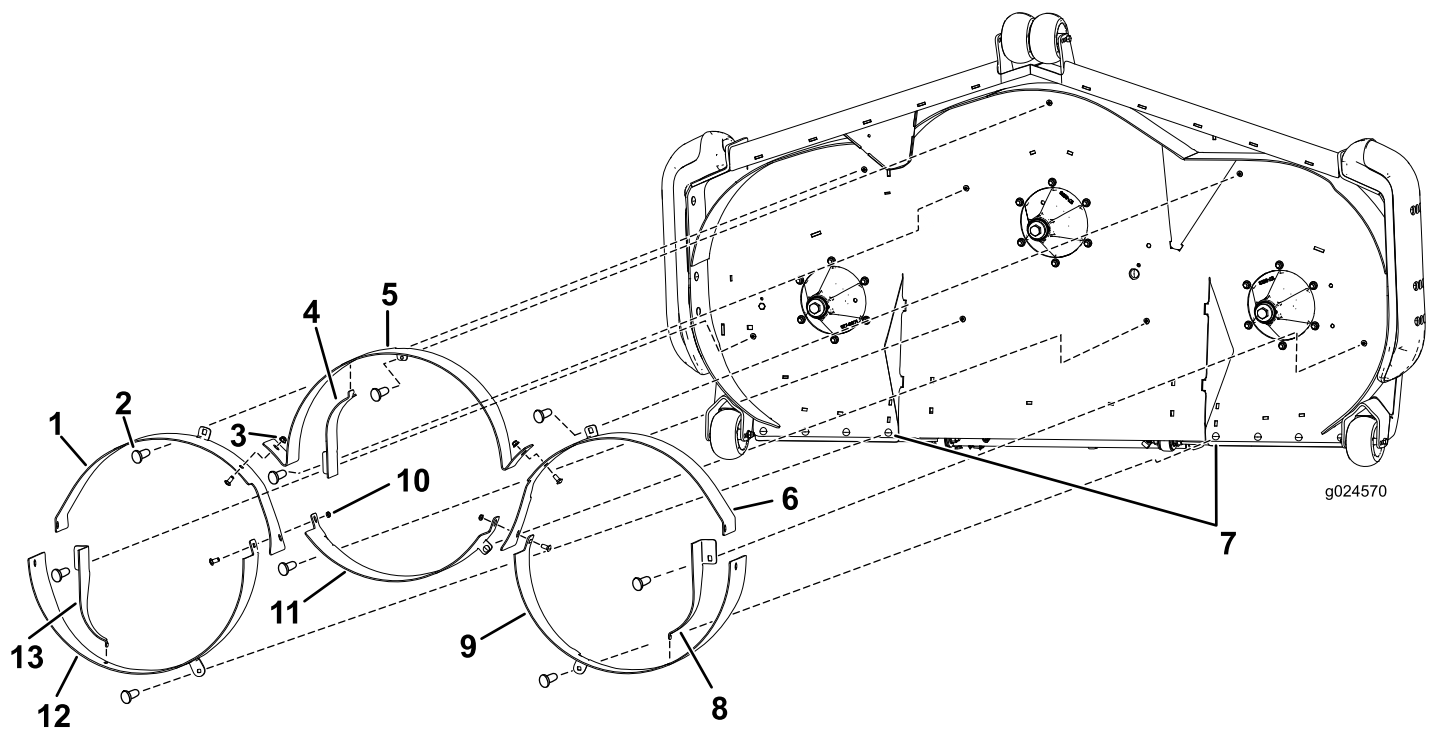

Figure 2
1. Install the front, outer baffles using 1 carriage bolt (3/8 x 7/8 inch) and 1 flange nut (3/8 inch) per baffle (Figure 2).
2. Install the front, center baffle using 3 carriage bolts (3/8 x 7/8 inch) and 3 flange nuts (3/8 inch) as shown in Figure 2.
3. Install the rear, outer baffles using 1 carriage bolt (3/8 x 7/8 inch) and 1 flange nut (3/8 inch) per baffle Figure 2.